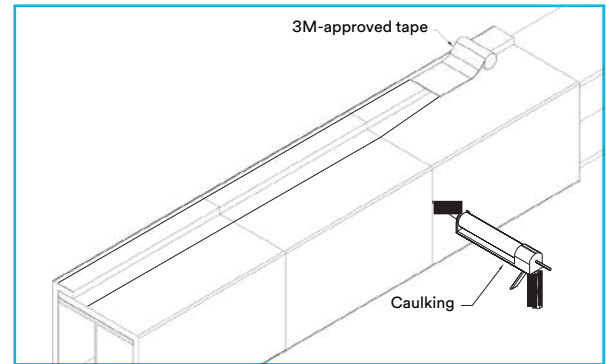

Figure 5
- 4** Repeat steps one through three for the next section of wrap. The next section of E-Mat should be tightly abutted to the first section eliminating all gaps when possible. If a gap of more than 3 mm (1/8 in) remains in the perimeter joint between sections of E-Mat, the gap is to be filled to the full depth of the E-Mat with 3M™ Fire Barrier Water Tight Sealant 3000 WT. (Figure 5)